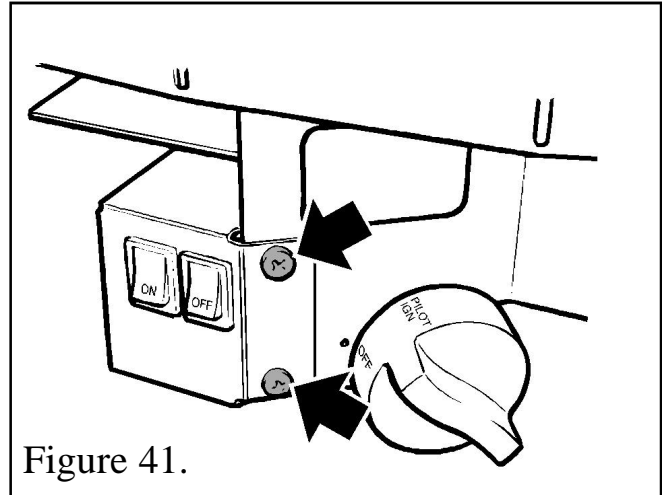

Figure 41.
- To gain access to the pilot pipe connection, detach the fan switch bracket from the burner control bracket by removing two screws (See figure 41).
- Detach the fan switch bracket from the burner control bracket by removing two screws (See figure 41). Carefully pull clear of the burner unit.